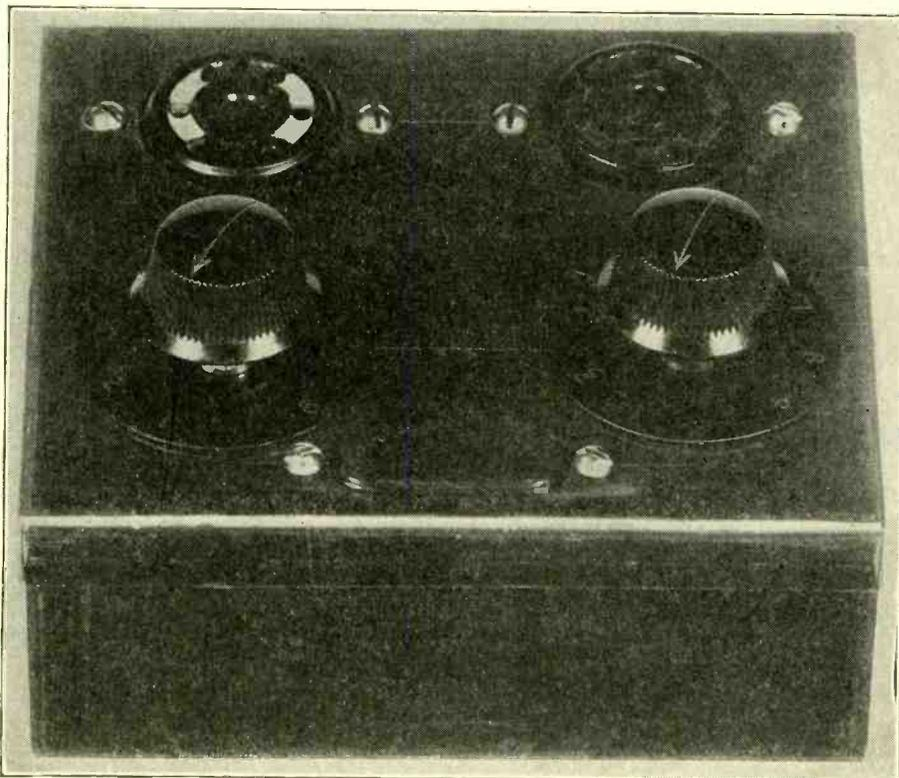

FIG. 1
**A**N accessor using the standard code for socket terminals, to enable current, voltage and even resistance measurements of a receiver, is diagrammed in Fig. 1. Two sockets are used in the accessor, one to take UX, UY and six-pin tubes, the other to take either the medium or the small seven-pin tubes. Whichever seven-hole socket is included there is a 7-to-7 adapter to take of the other type with the same number of holes. When and if eight-pin tubes are announced, an eight-hole socket may be used in this position, and by adaptation will accommodate both of the seven-pin tube bases.